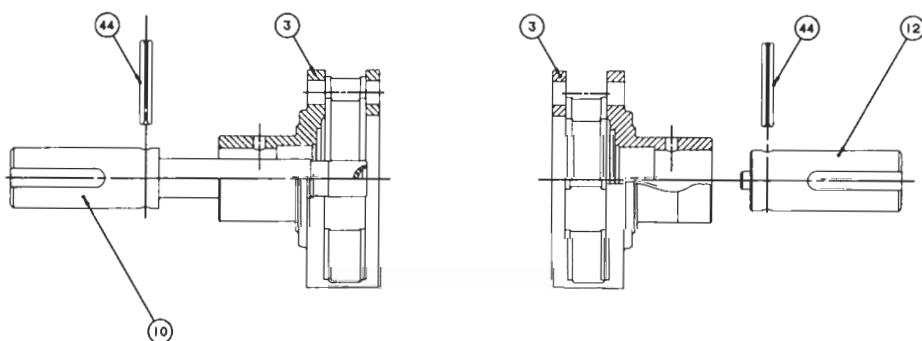

Figure 9
21. Press roll pins (44) free from carrier (3). See Figure 9.
22. Press male shaft and stub shaft (10, 12) from carrier (3). See Figure 9. When reassembling make sure that the male shaft (10) and the stub shaft (12) are pressed back into the original positions.
23. The holes must be aligned so that the roll pins (44) can be reinserted.